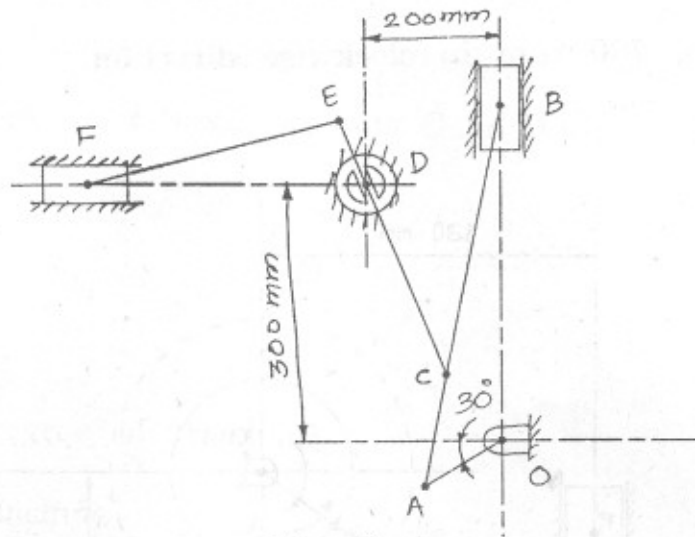

Fig. 2
4. The Fig. 2 shows a crank OA 100 mm long, rotating clockwise about O at 130 rpm. AB is connecting rod 400 mm long. At a point C on AB, 150 mm from A, the rod CE, 350 mm long is attached. This rod CE slides in a slot in a turnnion at D. The end E is connected by link EF 300 mm long, to the horizontally moving slides F.